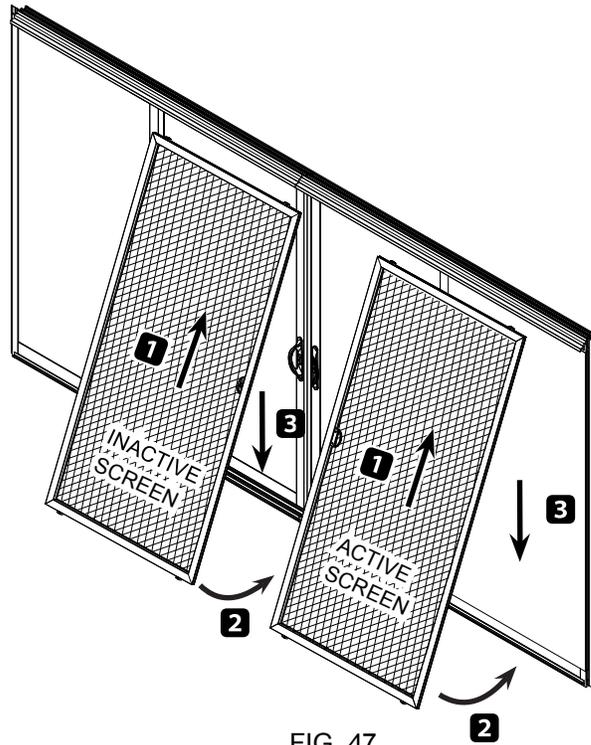

FIG. 47
1. Install both screens from the exterior side. (FIG. 47)